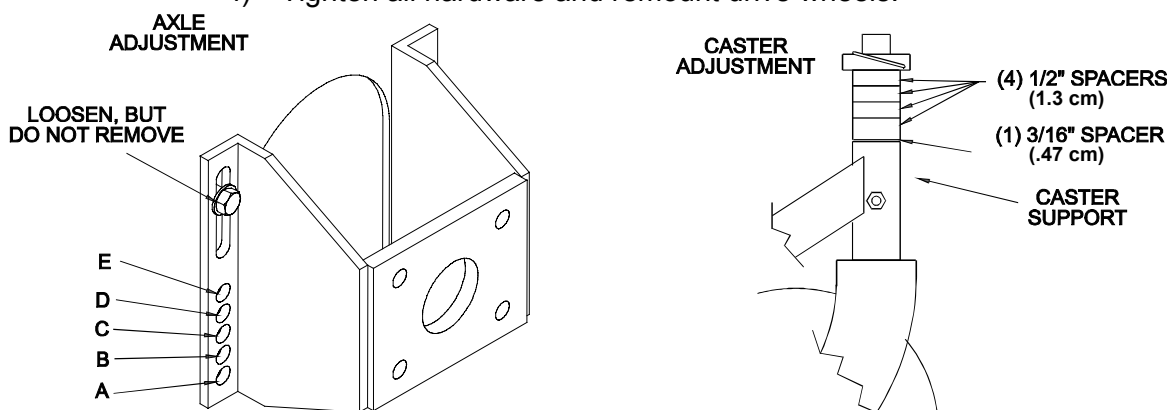

FIGURE 12
Desired cutting height range can be obtained by adjusting the rear axle and placing caster spacers above or below the caster arm (See Figure 12).
- Loosen but do not remove the **top** two bolts on each hydraulic motor mounting bracket, (See Figure 12).